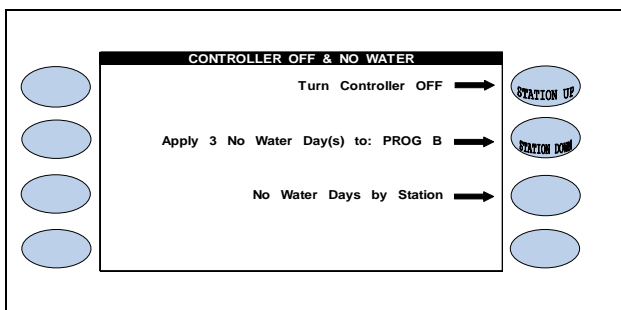

Figure 9.1
The TURN Controller OFF & NO WATER screen is displayed (Figure 9.1).
From the CONTROLLER OFF & NO WATER DAYS screen (Figure 9.1).
- Press the **APPLY NO WATER DAYS** Menu key. In figure 9.1, all stations on Program B will be turned off for three consecutive days.
- To turn Program B back on at anytime, return to the TURN CONTROLLER OFF & NO WATER screen and set the No Water Days to zero (0).